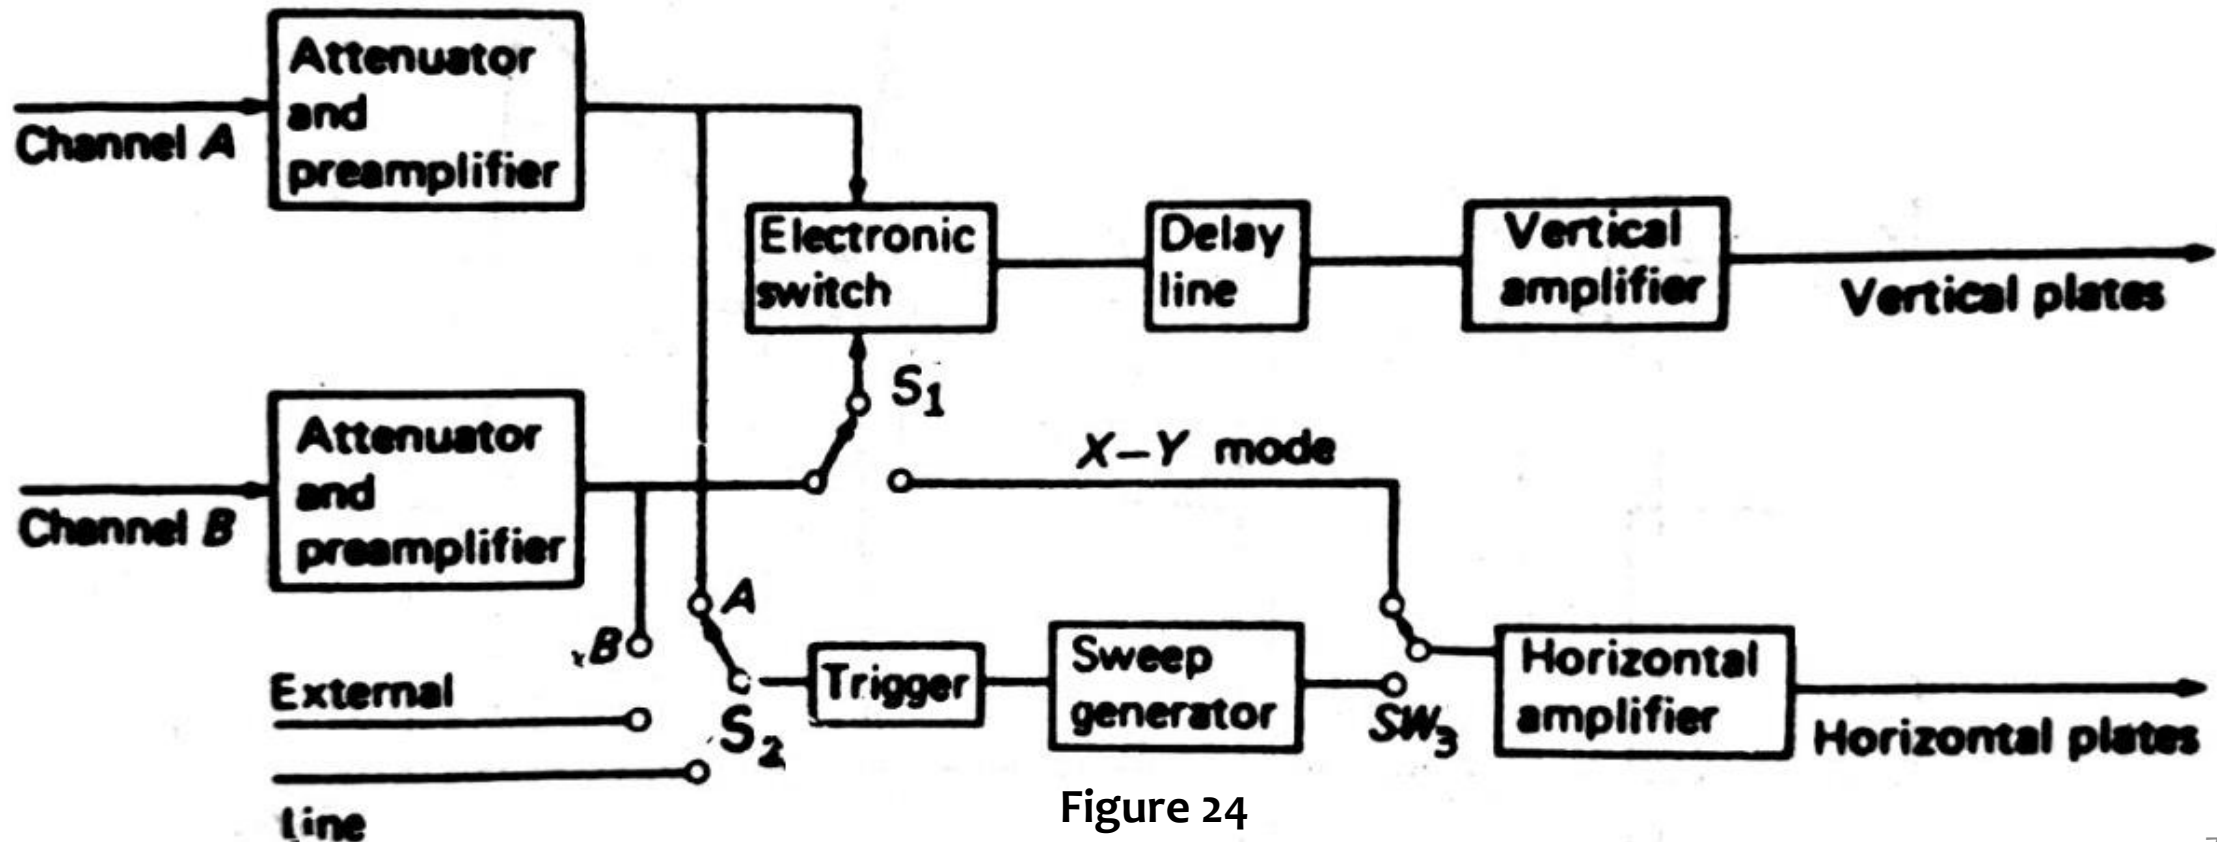

Figure 24
- Fig. 24 below shows block diagram of dual trace oscilloscope:
- **Channels** – As shown in figure 24, the dual trace oscilloscope has two separate vertical input channels A & B, through which the two signals will be fed to the CRO.